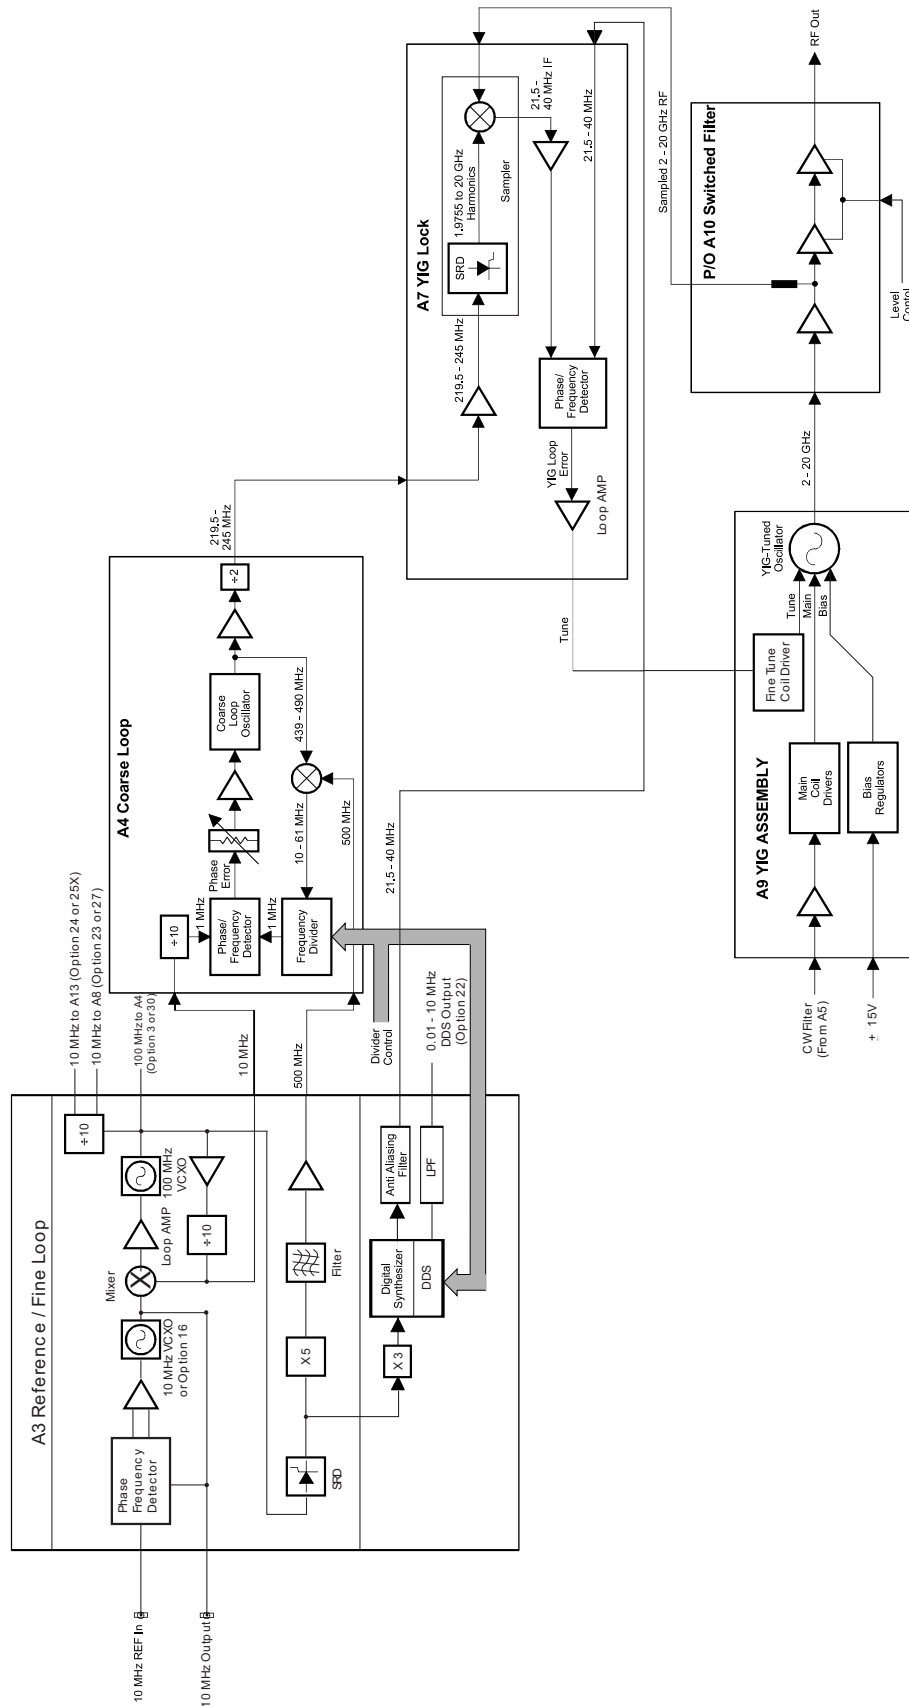

Figure 2-2. Block Diagram of the Frequency Synthesis Subsystem
The frequency synthesis subsystem provides phase-lock control of the MG369xB output frequency. It consists of four phase-lock loops, the reference loop, the coarse loop, the fine loop, and the YIG loop. The four phase-lock loops, operating together, produce an accurately synthesized, low-noise RF output signal. Figure 2-2 on page 2-7 is an overall block diagram of the frequency synthesis subsystem. The following paragraphs describe phase-lock loops and the overall operation of the frequency synthesis subsystem.
Frequency modulation (FM) of the YIG-tuned oscillator RF output is achieved by summing an external or internal modulating signal into the FM control path of the YIG loop (refer to Figure 2-1 and Figure 2-2).